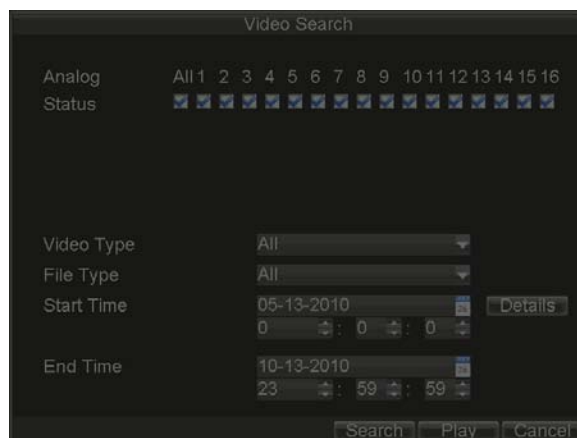

Figure 6. Video Search Menu
1. Click Menu > Video Search to enter the Video Search dialog box, shown in Figure 6.